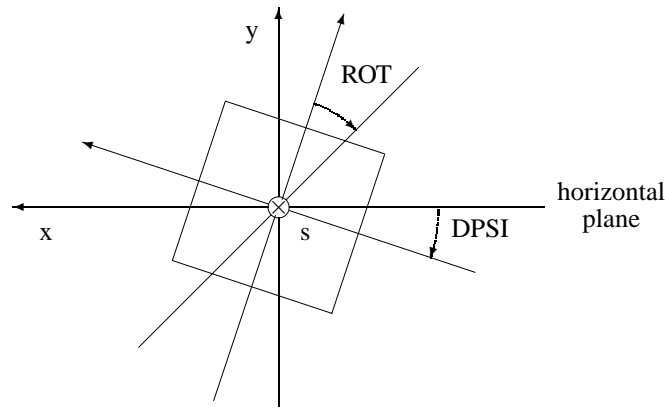

Figure 10.3: Example of Misplacement in the  $(x, y)$ -plane.
**DPSI** The rotation around the  $s$ -axis (default: 0 rad) according to the right hand rule (see Figure 10.3).
**ROT** A vector (see Section 3.4.3) of deferred expressions (see Section 2.8.5). Its component  $k$  is the rotation angle (see Figure 10.3) for the multipole strength with  $(2k + 2)$ -poles (default: 0 rad).